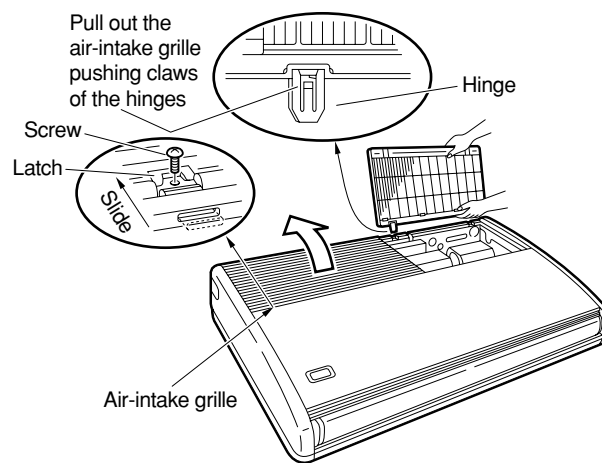
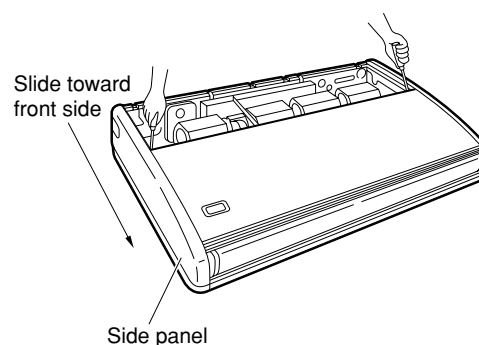

Fig. 3-88a
Fig. 3-88b
- (5) Before suspending the indoor unit, remove the 2 or 3 screws on the latch of the air-intake grilles, open the grilles, and remove them by pushing the claws of the hinges as shown in Fig. 3-88a. Then remove both side panels sliding them along the unit toward the front after removing the 2 attachment screws. (Fig. 3-88b)